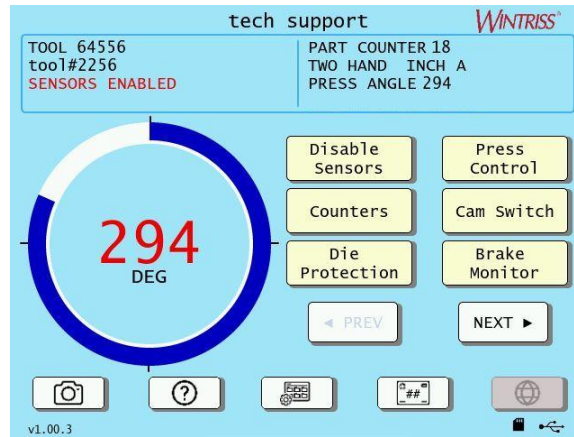

Figure 3-34. Main Run Menu
1. Turn the PROG/RUN key switch to RUN. The Main Run Menu appears, Figure 3-34.